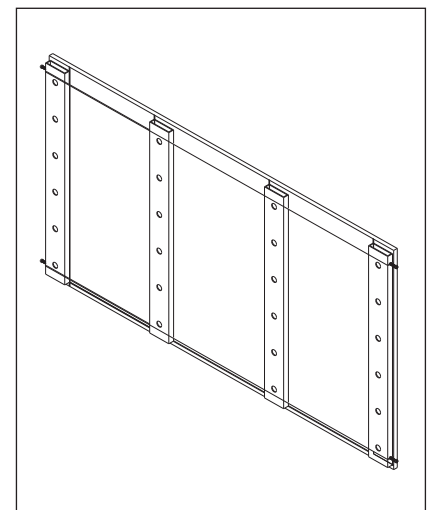

Figure 8: Use Shims between Tube and Wall until All Tubes are in Line and Level
- d. Use the supplied shims to ensure all tubes are in line and level to each other. Refer to **Figure 8**. Double-check the tube plumbness as tubes are adjusted using the string line. Each individual tube should be level within $\frac{1}{4}$ " [6 mm]